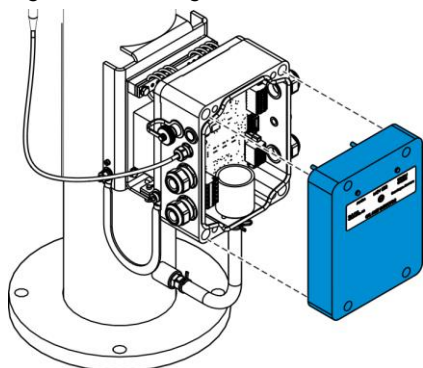

Fig. 56: Removing the housing cover
3. Remove the housing cover (Fig. 56).